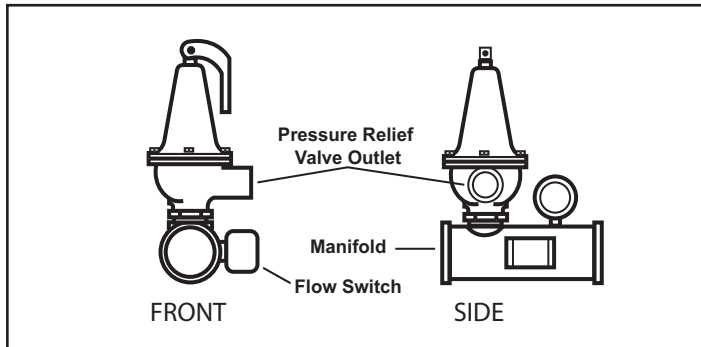

Figure C.5.1. Manifold and Components
5. Install the 2 loose wires at the rear of the boiler to the flow switch installed at the side of the manifold as shown in figure C.5.1.